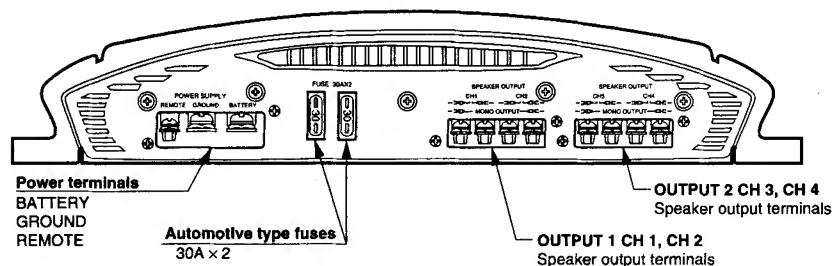

Figure 3 Rear Panel Layout of the Clarion APA4400G 4-Channel Car Audio Amplifier
1. The rear panel of the APA4400G/APA4200G holds the external fuse as well as connections for power, speakers, as shown in Figure 3.